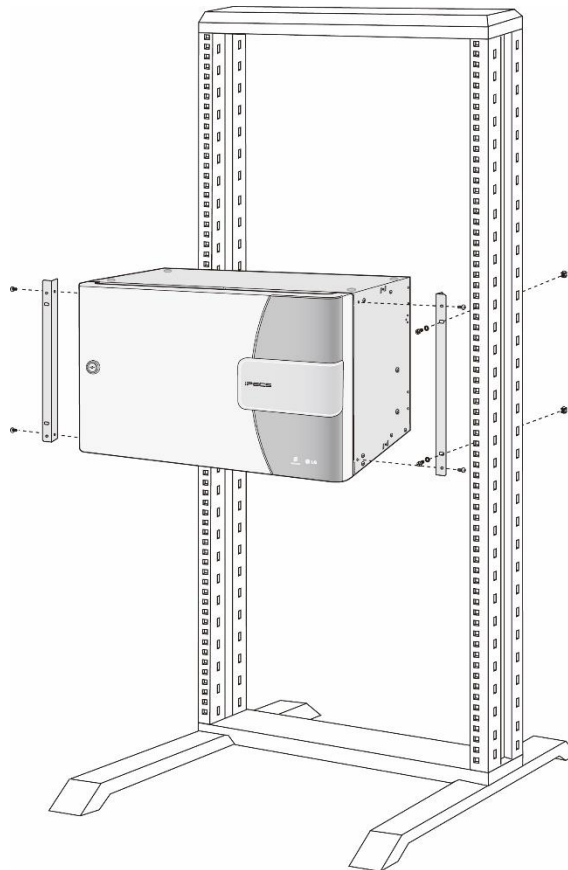

Figure 5.1.2-1 Rack (19") Installation
- 1) Bolt the Rack mount brackets securely to the sides of the cabinet with the four (4) M4 x 6 mm machine screws supplied. Refer to Figure 5.1.2-1.
- 2) Connect the brackets to a standard 19" rack securely with four (4) appropriate machine screws, nuts and lock-washers.